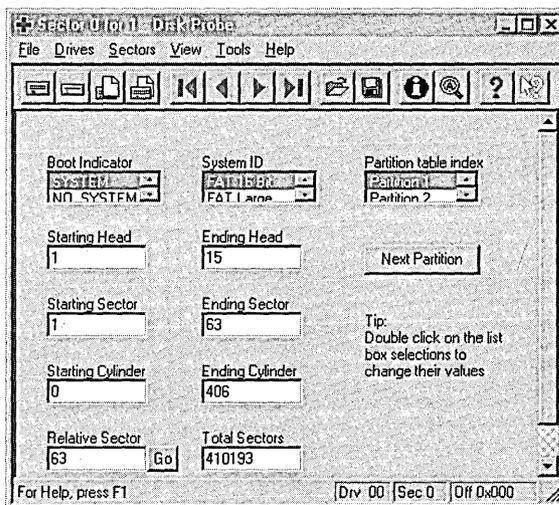

Figure 7.3 DiskProbe Partition Table view
4. If you know the address of the sector you need to write, skip to step 6. To use DiskProbe to compute the sector, first read the Partition Table and view it by using the procedure in “Displaying and Using the Partition Table,” presented earlier in this section. Figure 7.3 shows the DiskProbe Partition Table view.